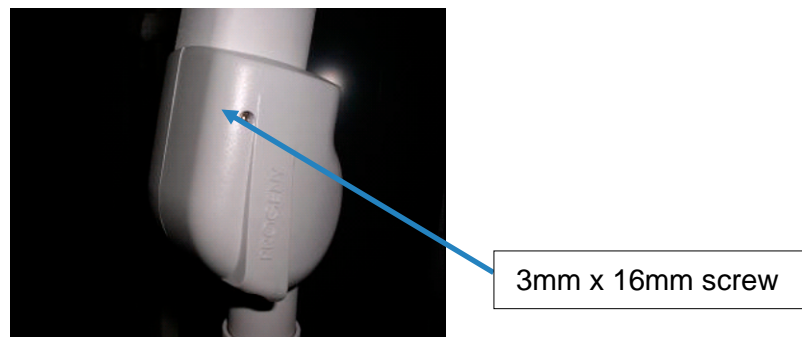

Figure 48: Installing the Matching Covers together
5. Press the two matching covers together and secure with the 3 mm x 16 mm screw provided in the package (Figure 48). Use a 3 mm hex wrench to tighten.